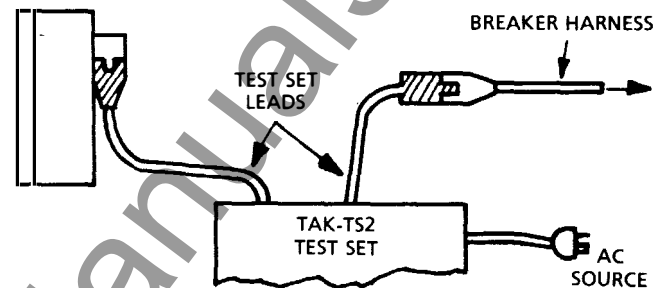

Fig. 5. Connection for Complete System test
3. The test set male connector lead need not be connected to the breaker harness for "Programmer Only" testing. However, the Fig. 5 connection should be used if "Complete System" tests are to be run also.
#### "Complete System" Test (Mode B) (See Fig. 5)